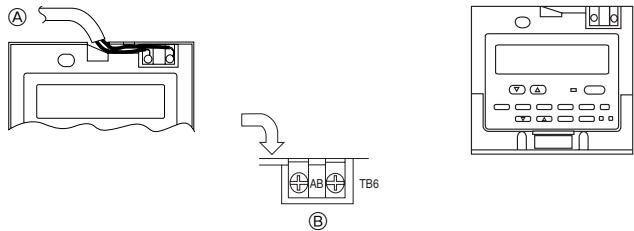

Fig. 9-4
- ⑨ Wall
- ⑩ Conduit
- ⑪ Lock nut
- ⑫ Bushing
- ⑬ Switch box
- ⑭ Remote controller cord
- ⑮ Seal with putty
- ⑯ Wood screw
2) Connecting procedures (Fig. 9-4)